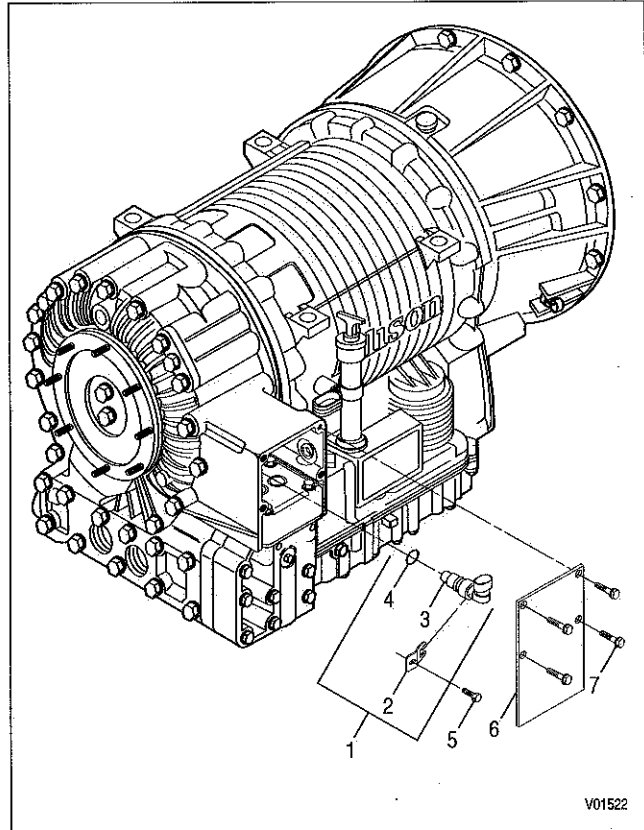

Figure 4-3. Output Speed Sensor
- For models without retarder, go to Step (3).
- For models with retarder (built before 1/98), skip Step (3) and go to Step (4).
- For models with retarder (built starting 1/98), skip Steps (3) and (4) and go to Step (5).
4. Remove four bolts 7 (Figure 4-3) and cover 6. Remove bolt 5, retainer 2, output speed sensor assembly 3, and O-ring 4.